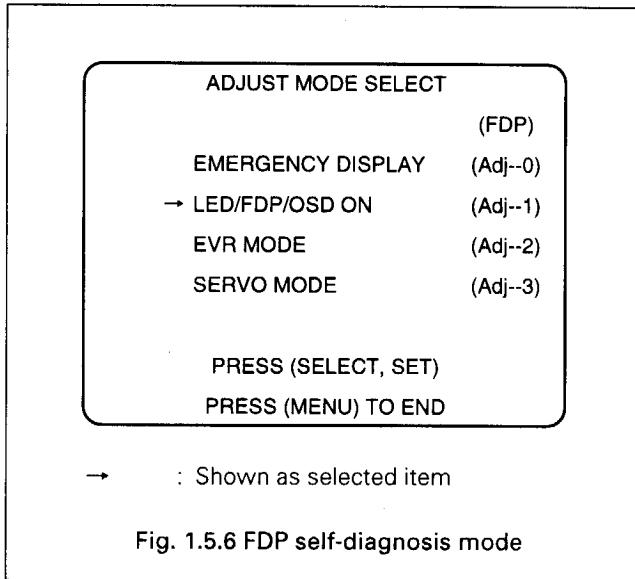

Fig. 1.5.6 FDP self-diagnosis mode
3. Press the **SET** button, and the "ADJUST MODE SELECT" menu appears on the display. (Refer to Fig. 1.5.6.)
4. Select "LED/FDP/OSD ON (Adj-1)" by pressing the **SELECT** button. (Refer to Fig. 1.5.6.)